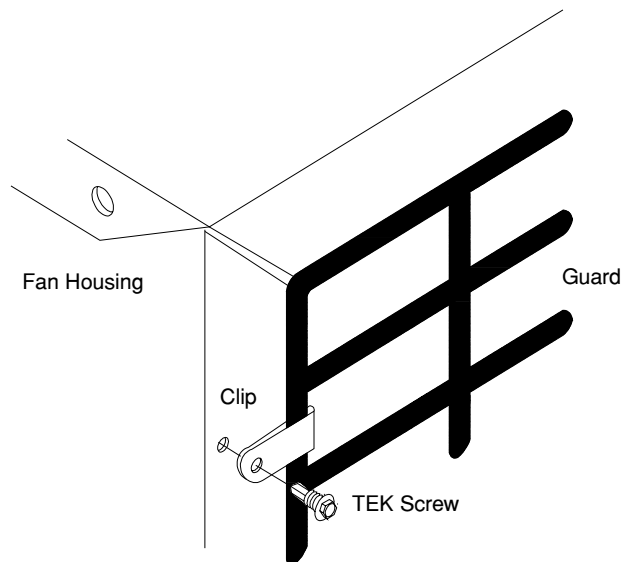

Figure 3
9) Attach front and rear wire mesh guards with clips and #10 x 1/2" TEK screws, 3 clips per side and 2 clips on top and bottom. Fold clips in half before installing. *See Figure 3.*